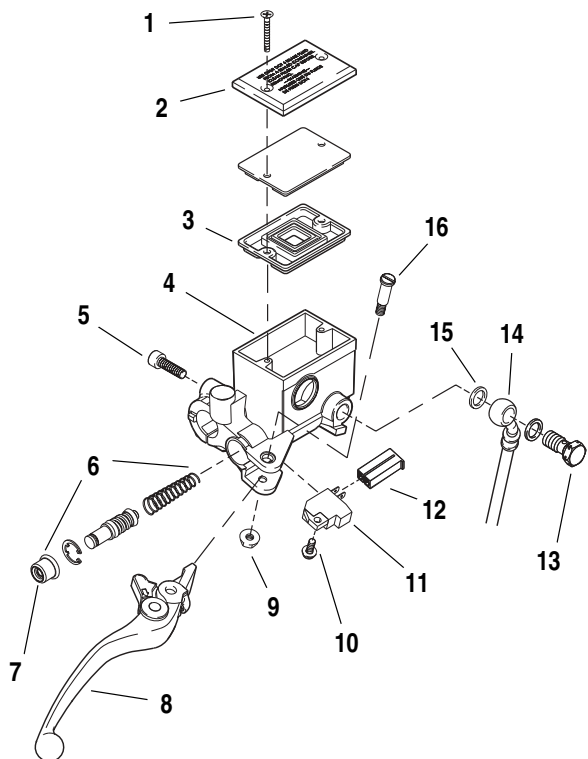
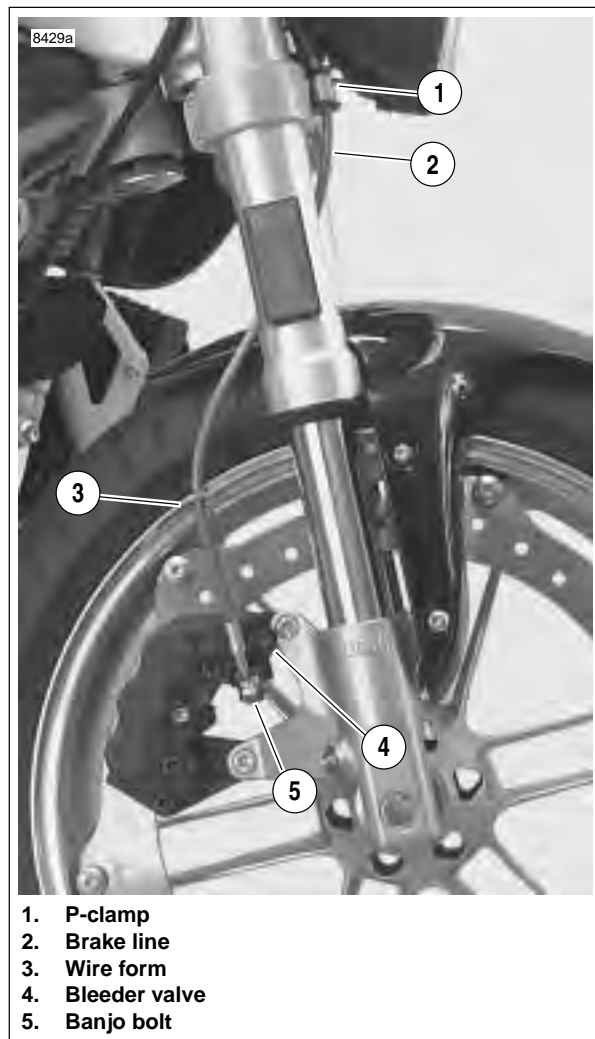

Figure 2-37. Front Brake Hand Lever Assembly
Figure 2-43. Front Brake Line
2. See Figure 2-37. Remove the banjo bolt (13) (metric) and two copper washers (15) to disconnect brake line (14) from master cylinder (4). Discard copper washers.
3. Unplug terminal (12) to detach brake lamp switch (11).
1. See Figure 2-37. Remove pivot bolt nut (9) (metric) and pivot bolt (16) from hand lever pivot.
2. Detach front brake hand lever assembly (8) from hand lever pivot.
3. Detach front brake lamp switch (11) by removing the switch fastener (10).
1. See Figure 2-37. Remove master cylinder cover (2) by removing cylinder cover fasteners (1).
3. Remove rubber boot (7) and discard.
5. See Figure 2-37. Remove piston assembly (6) from front master cylinder reservoir (4) and discard.
4. See Figure 2-37. Insert piston assembly (6), spring first, into master cylinder reservoir (4).
1. See Figure 2-37. Lubricate pivot bolt (16) with LOCTITE ANTI-SEIZE.
2. Align hole in hand lever (8) with hole in hand lever pivot and install pivot bolt (16) through top of hand lever pivot and tighten nut to 39-48 **in-lbs** (4.4-5.4 Nm) on XB9SX models only. All other models are tightened to 80-120 **in-lbs** (9-13.5 Nm).
1. See Figure 2-37. Install front brake lamp switch (11).
- a. Install brake lamp switch (11) with switch fastener (10) and tighten to 7-10 **in-lbs** (0.8-1.0 Nm).
- b. Connect brake switch terminal (12) to brake lamp switch (11).
3. See Figure 2-37. Connect brake line to master cylinder using two **new** copper washers (15) and banjo bolt (13) (metric) and tighten to 16-20 **ft-lbs** (22-27 Nm).
5. See Figure 2-37. Remove two master cylinder cover screws (1), cover (2) and cover gasket (3).
10. See Figure 2-37. Attach master cylinder cover (2) and cover gasket (3). Tighten two cover fasteners (1) to 9-13 **in-lbs** (1.0-1.5 Nm).
4. See Figure 2-37. Remove master cylinder banjo bolt (13) (metric) and two copper washers (15) to disconnect brake line from master cylinder (4). Discard copper washers.
1. See Figure 2-37. Connect brake line (14) to master cylinder (4) using two **new** copper washers (15) and a banjo bolt (13) (metric). Loosely install bolt into master cylinder.
- a. See Figure 2-43. Install **new** copper washer, brake line (2), **new** copper washer and wire form (3) onto banjo bolt (5).
- b. Finger tighten banjo bolt (5) onto front caliper being careful not to pinch wire form (3) while tightening, wire form should rotate around banjo bolt freely.
- c. Twist brake line (2) into wire form (3) spiral and clock wire form against bleeder valve (4).
5. Install and tighten p-clamp with fastener (1) on lower triple clamp to 36-60 **in-lbs** (4-7 Nm).
6. See Figure 2-37. Tighten master cylinder banjo bolt (13) (metric) to 16-20 ft-lbs (22-27 Nm).
7. See Figure 2-43. Tighten brake caliper banjo bolt (5) (metric) to 16-20 ft-lbs (22-27 Nm).